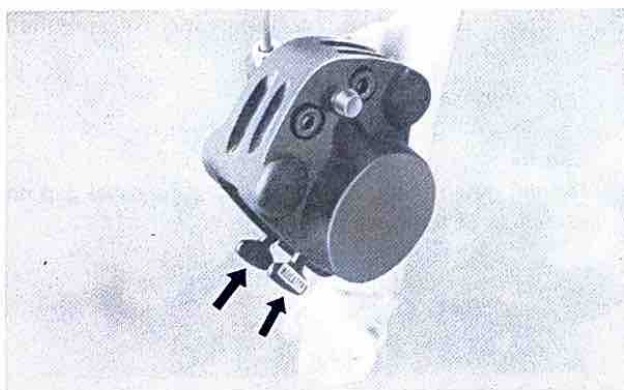

Fig. 16
9. The two pads of the disc brake caliper assembly should be kept forced into their seats. (Fig. 16)